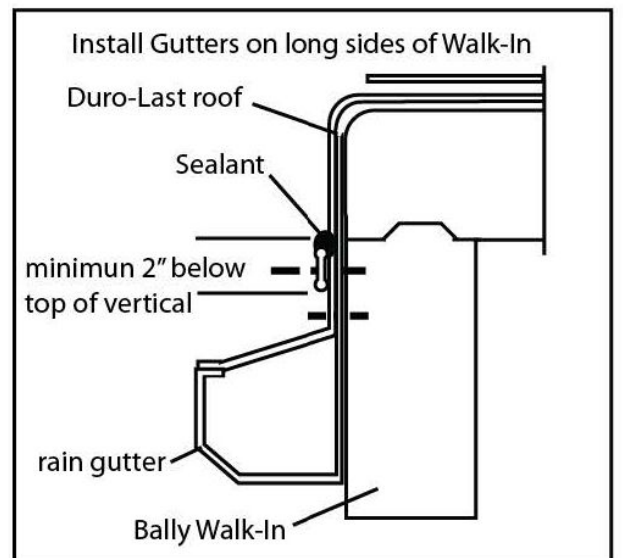
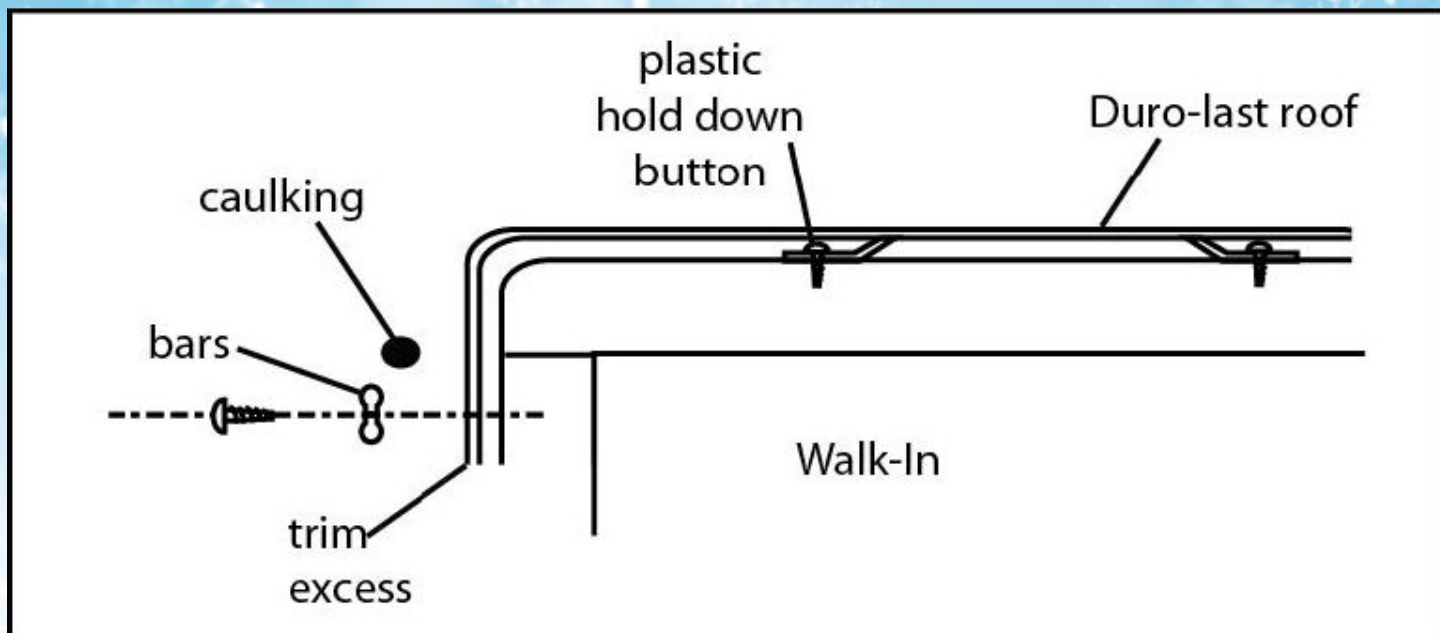

Figure 5
Figure 6
### 4. After installing roof material, fasten edges using termination bars and fasteners provided. See Figure 5. NOTE: Fasten both short edges first. Fold corners and fasten roof edges on long sides last. See Figure 6.
- A. Trim excess material below bars. See Figure 5.
- B. Caulk top edge of bars with caulk furnished. See Figure 6.